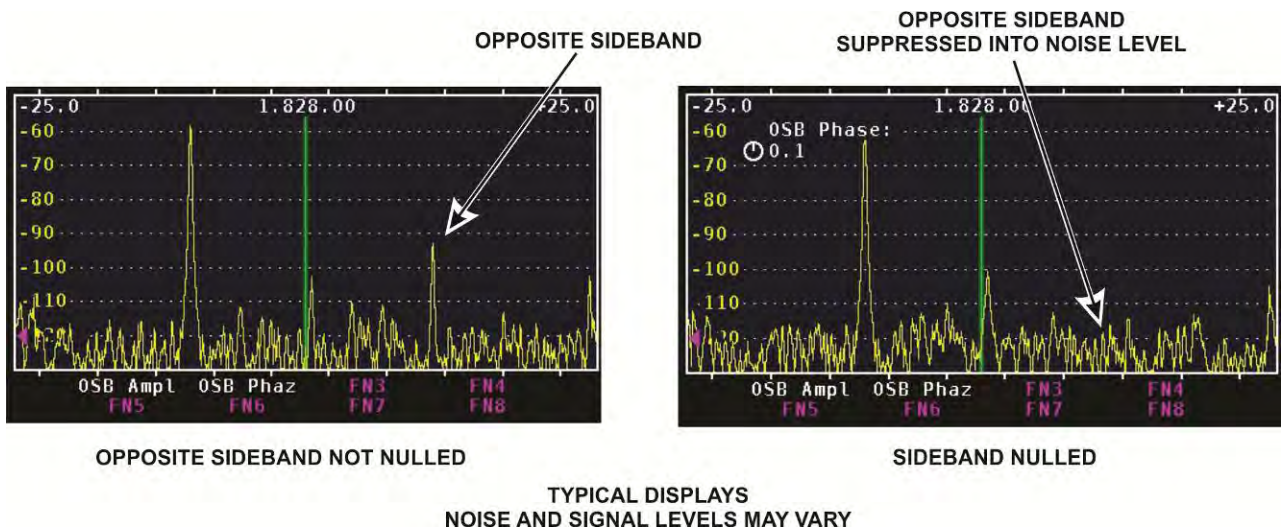

Figure 18. Typical Opposite Side Band Signal Displays.
- Switch your KX3 to 160 meters and tune to a frequency 10 kHz *above* that of the signal generator. That is, if your signal source is at 1.818 kHz, tune the KX3 to 1.828 kHz. You should see a strong signal to the left of the center cursor and, if the opposite sideband is not completely suppressed, you will see a weaker signal the same distance to the right of the center cursor (see Figure 18). The weaker signal to the right is the opposite sideband. If you are using the internal PX3 signal source, adjust the coupling to the KX3 antenna input as needed for an easily visible signal level.